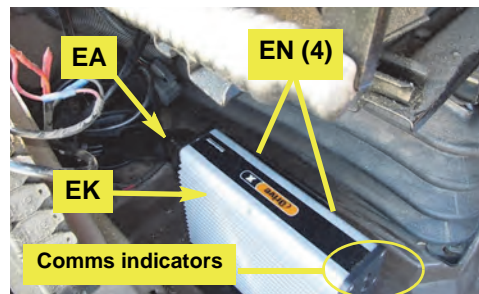

Figure 1c: Main cable connected to ECU
- Connect **TB**'s branch cable labeled "eDriveTC" to the CAN port on the ECU **TC** (Figure 1c with inset)
Figure 1c with inset: CAN cable connection at ECU
- c. Using screws **EN** (not visible) attach the ECU **EK** to the front face of bracket **EJ**. Have the wire connections toward the rear and the power and communications indicators at the top (Figure 1c).
- a. Connect cable **EA** to the ECU **EK** using an Allen wrench to secure the cable. The **EA** connector will only fit the ECU socket that is in line with the power and communications indicators at the opposite end of the ECU—the top socket in this installation (Figure 1c).